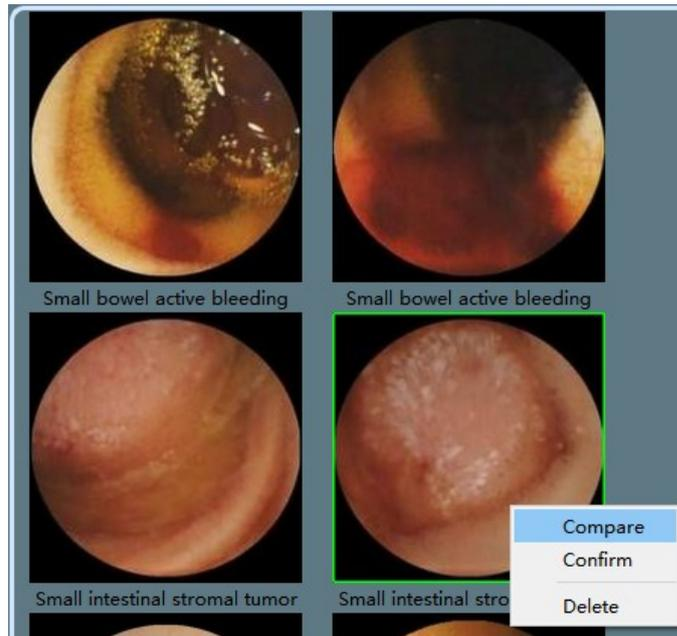

Figure 4-66: Comparison Between Exam Image and Atlas Image
3. On the atlas image to be compared, right click and select “Compare” in the pop-up menu to open the image comparison interface and compare the selected exam image with the atlas image, as shown in Figures 4-66 and 4-67. The image scaling factor can be changed by dragging the slider or scrolling the mouse.